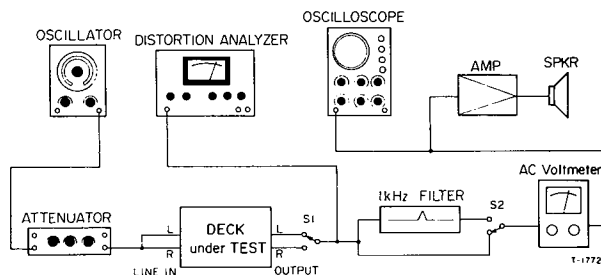

Fig. 5-1 Basic test setup
16. Erase efficiency	• Connection — Fig. 5-1. But switch ON 1 kHz filter. • Record 1 kHz. Rewind tape to mid point of recorded portion. Do "no signal" recording. Get difference between 1 kHz portion and its erased portion.
17. Channel separation	• Connection — Fig. 5-1. But do not connect LINE IN (R), switch ON 1 kHz filter. • Set deck in record mode. Find differences between 1 kHz recorded portion (L-ch) and "no signal" portion (R-ch).
18. Adjacent track crosstalk	• Connection — Fig. 5-1. But do not connect LINE IN (L) and OUTPUT (L). • Record 125 Hz on R-ch. Note output level of its recorded portion. Invert tape and play R-ch track. Check leakage level against the output reference of previously recorded portion.